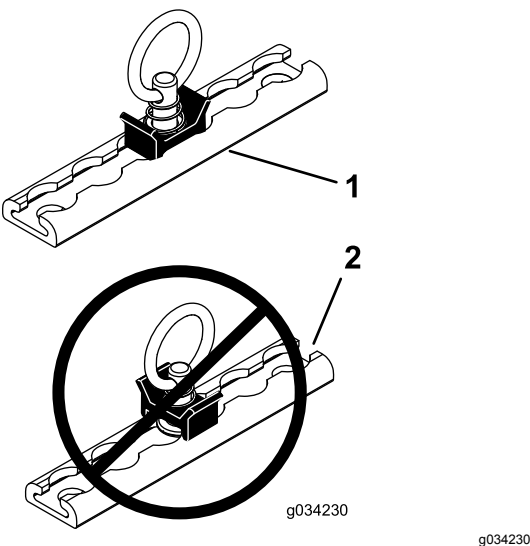

Figure 4
2. Install and use the ring assembly as shown in Figure 4.
2. Install and use the ring assembly using 2 fine-threaded screws and locknuts (1/4 inch) as shown in Figure 4.